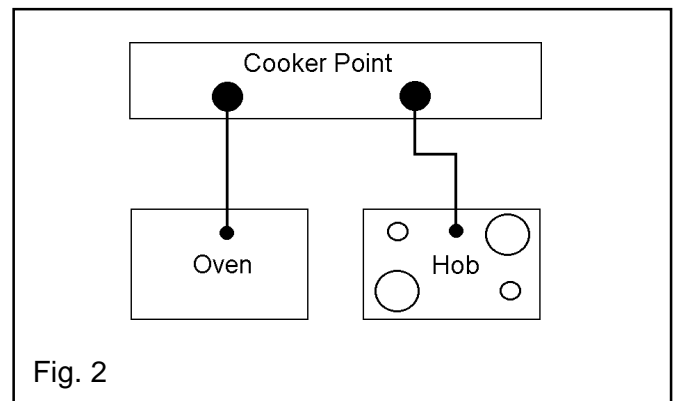

Fig. 2
- If you wish to connect an oven and a hob to a cooker point you can, by connecting the oven and hob separately to the cooker point. See Fig. 2.